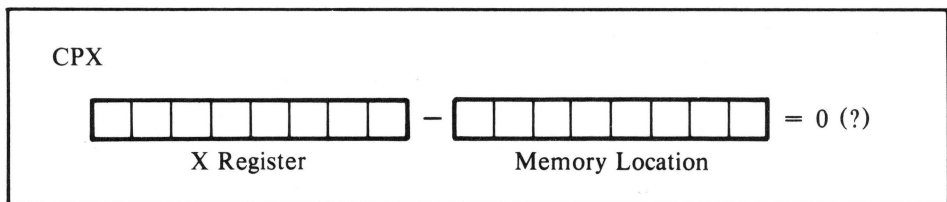

Figure 12-2. Compare X register with memory
- **CPX** — Compare the value in the X register with the value in a specified memory location (see Figure 12-2).